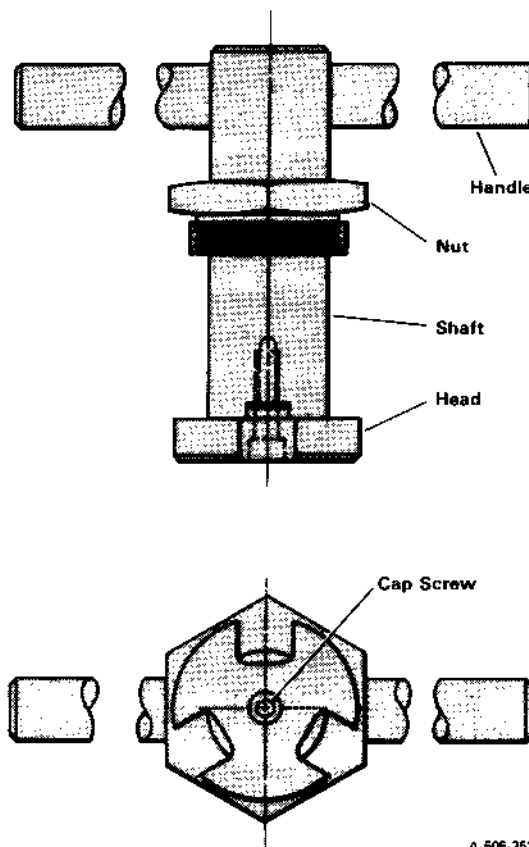

Figure 13. Taylor Seat Ring Removal Tool, Part No. 153S22
12. If seat ring is to be replaced, remove ring using Taylor tool Part Number 153S22, Figure 13.
- b. Using seat ring tool, Figure 13, screw seat ring into valve body. Tighten seat ring to torque specifications listed in Table 3.